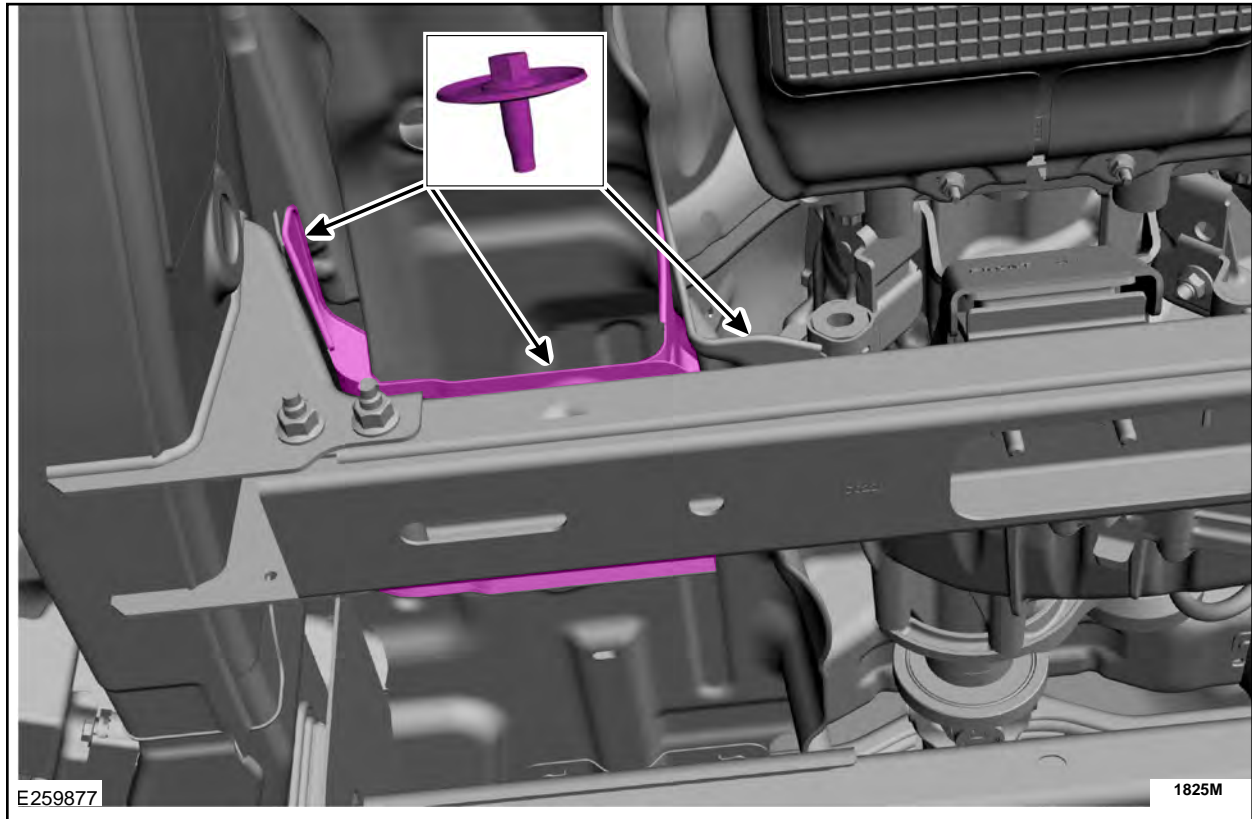

FIGURE 20
36. Remove the RH outboard exhaust heat shield retainers and heat shield. See Figure 20.
63. Install the RH outboard exhaust heat shield and retainers. See Figure 20.